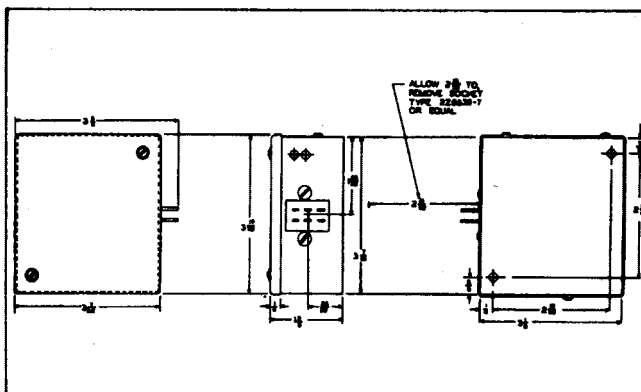

Figure 2-9. Microphone Adapter M-299
(1) ELECTROMAGNETIC TYPE.—Connect the electromagnetic type microphone directly to the jack box.
(2) CARBON TYPE.—Connect the carbon type microphone through Microphone Adapter M-299 (see figs. 2-9 and 2-12) to the jack box.